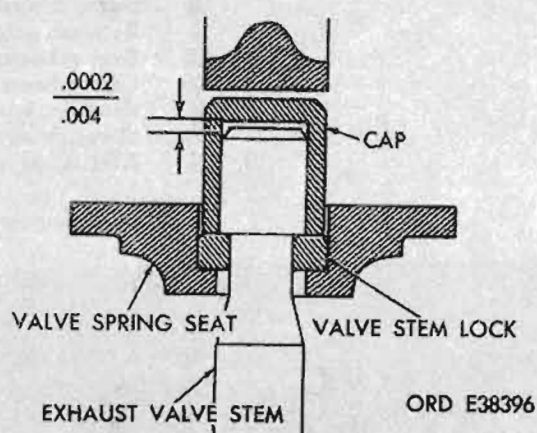

Figure 4-142. Exhaust valve stem-cap clearance.
(2) *Exhaust valve stem end-to-cap clearance.* Measure clearance between end of exhaust valve stem and inside of cap (fig. 4-142). Correct clearance is 0.0002-0.004 inch. Proper clearance is necessary so cap can carry valve spring pressure, permitting the valve to float and rotate. If clearance is greater than 0.004 inch, reduce clearance by lapping open end of cap on a flat smooth surface. If clearance is less than 0.0002 inch, increase clearance by grinding necessary amount from end of exhaust valve stem in a valve refacing machine.